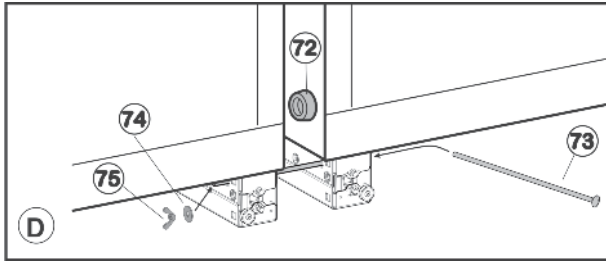

Fig. 46
- ▶ Insert long carriage bolt Fig. 46 (73).
- ▶ Push washer Fig. 46 (74) and nut Fig. 46 (75) onto the screw. Tighten nut until the spacer Fig. 46 (72) is touching the opposite side wall.